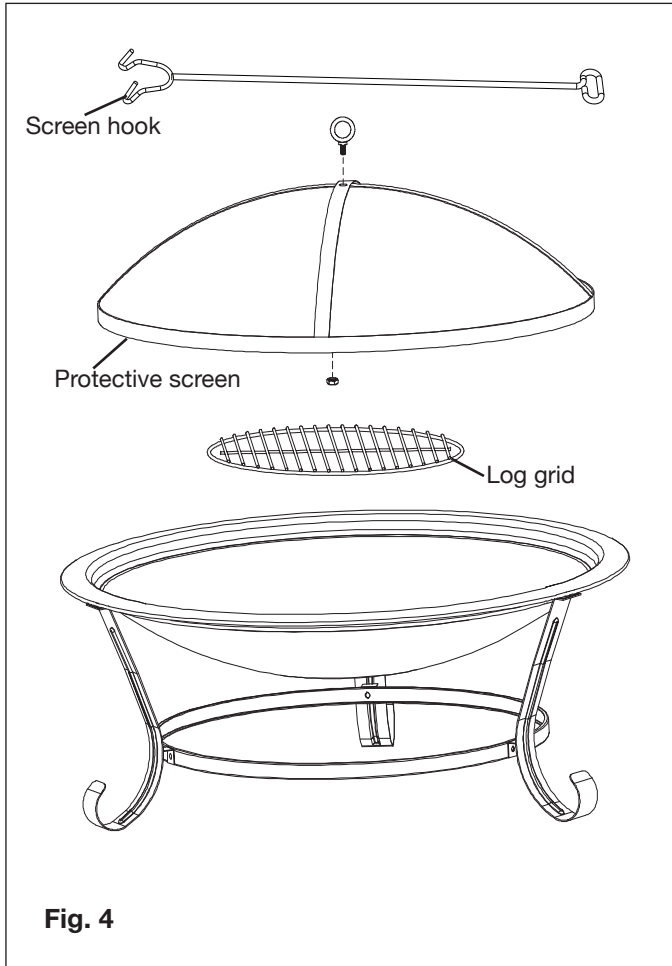

Fig. 4
- Place the log grid on top of fire bowl followed by the protective screen and the screen hook (Fig. 4).